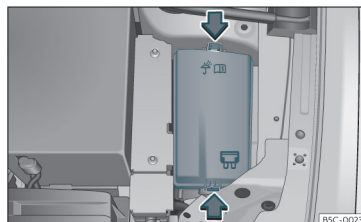

Fig. 48 In the engine compartment: fuse box cover.
- Press the locking tabs to release the fuse box cover»» Fig. 48.